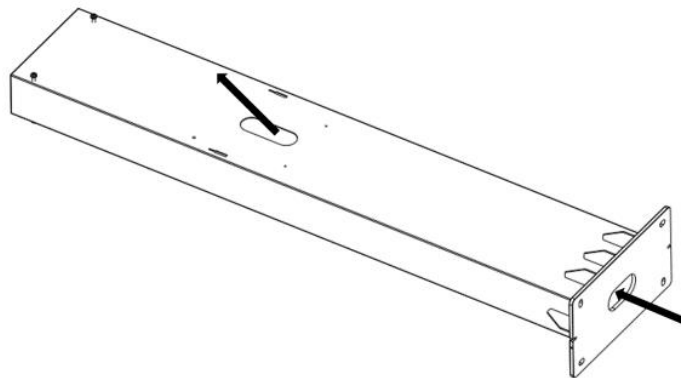

Figure 4-45 Cable inlet drawing
(1) Place the pole horizontally, and insert the cable into the bottom hole and put it out from the middle hole (as shown in Figure 4-45) .